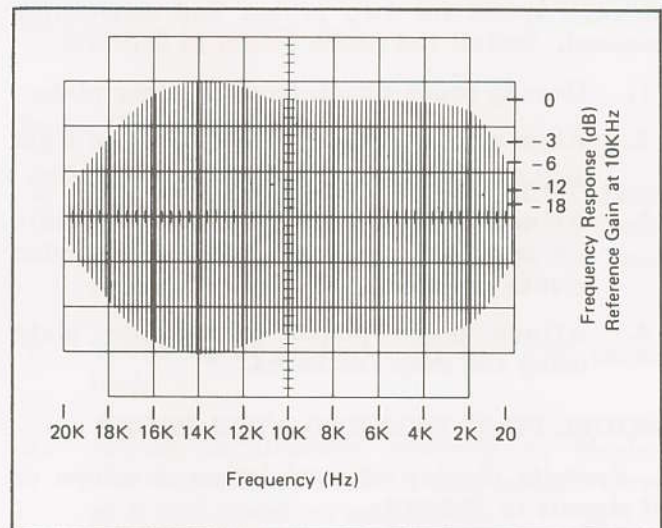

Fig. 19. Frequency Response Measurement, Envelope Response.
(refer to Fig. 19 and 20)
4. A standard probe will result in an envelope display such as shown in Fig. 19. The example in Fig. 19 results from a negative-going sweep ramp voltage as frequency increases, with the higher